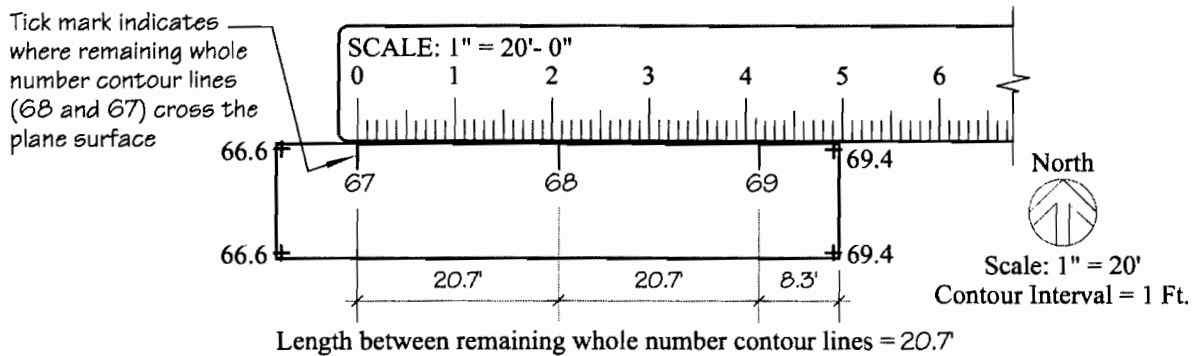

Figure 11. Scale to Locate Remaining Whole Number Contour Lines
Step 6. Use a scale to measure 20.7 feet west from previously found contour 69 crossing point. Place a tick mark at that point and number "68" as shown in Figure 11.